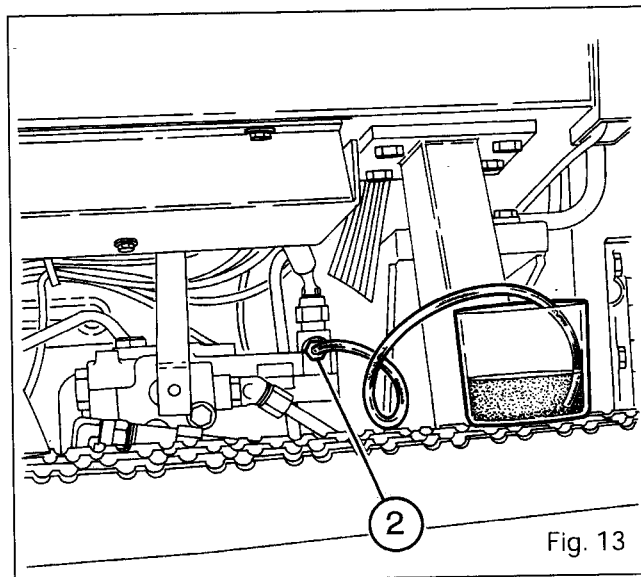

Fig. 13
### Control valve (pressure-loaded clutch) (Fig 13)
3. Fit a hose onto the bleed screw (2) as shown in Figure 13.